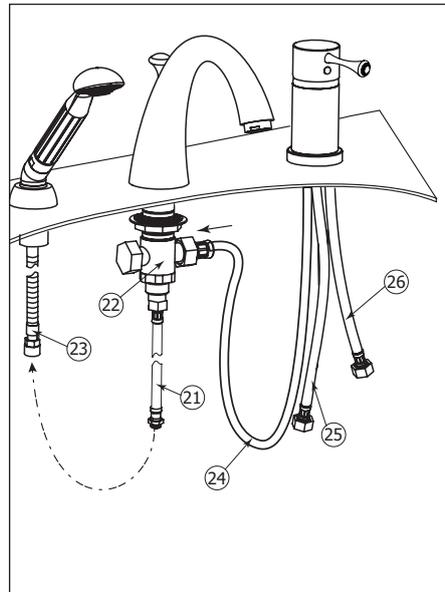

Fig.6
Connect the 1/2" female end of the extension hose (21) (included in box) to the bottom of the faucet shank (22). Then connect the other end of the hose (male connection) to the 3/8" handshower chrome hose end (23). Fig.6.